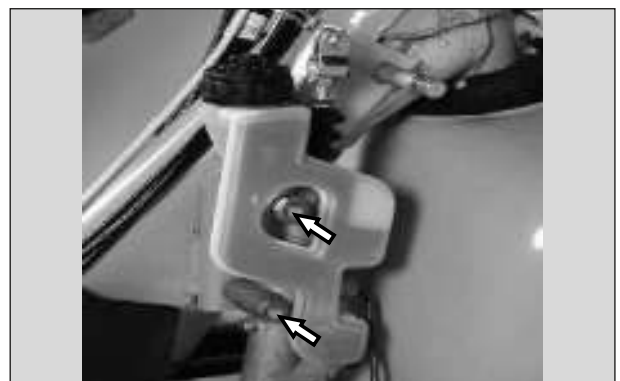

Fig. 5.58
- Loosen and remove 2 nos. Hexagonal nut (M10 8Zng) along with wave spring washer (M10 Znb) from chassis. (Fig. 5.58)